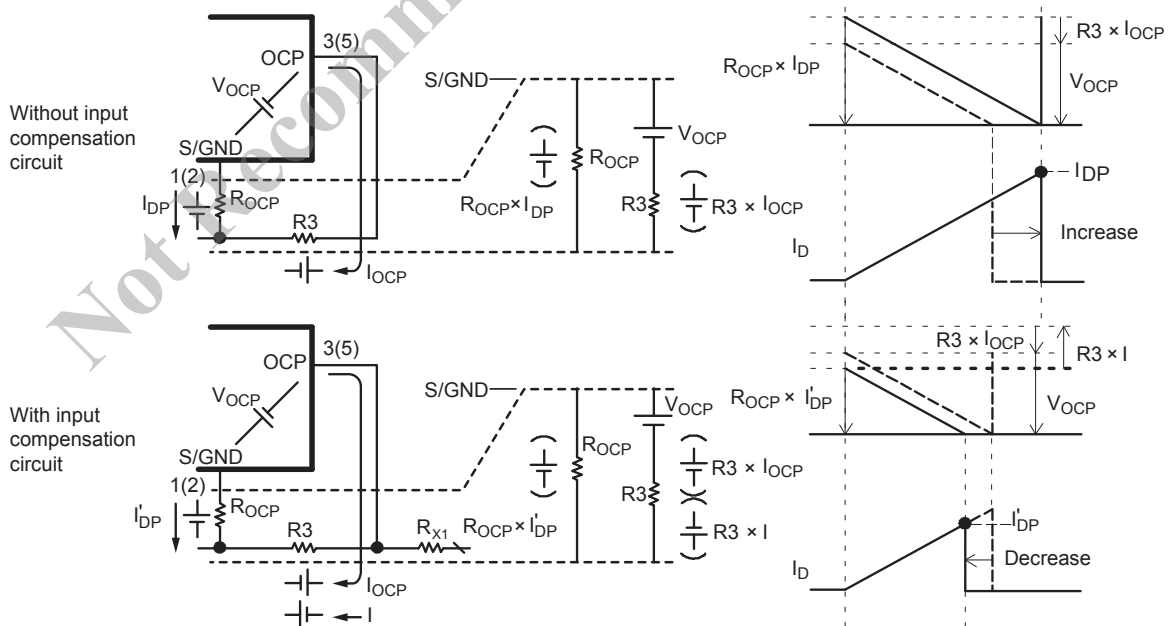

Figure 50. Compensated drain current waveforms
Without the input compensation circuit, as shown in the figure 50 upper panel, the overcurrent detecting voltage is equal to the sum of the Overcurrent Protection Threshold Voltage, $V_{OCP} = -0.60 \text{ V}$, and the voltage across $R3$ from the OCP pin source current, $I_{OCP} = -40 \mu\text{A}$.
In the converse situation, with the input compensation circuit, as shown in the figure 50 lower panel, the overcurrent detecting voltage is equal to the sum of the Overcurrent Protection Threshold Voltage, $V_{OCP} = -0.60 \text{ V}$, the voltage across $R3$ from the OCP pin source current, I_{OCP} , and the voltage across $R3$ from the input Compensation Current, I .
1. The overcurrent detecting peak drain current, $I_{DP(OCP)}$, without the input compensation circuit, is expressed by the following, based on equation 6, from figure 50, upper panel:
2. On the other hand, the overcurrent detecting peak drain current, $I'_{DP(OCP)}$, with the input compensation circuit, is expressed by the following, based on equation 7, from figure 50, lower panel: